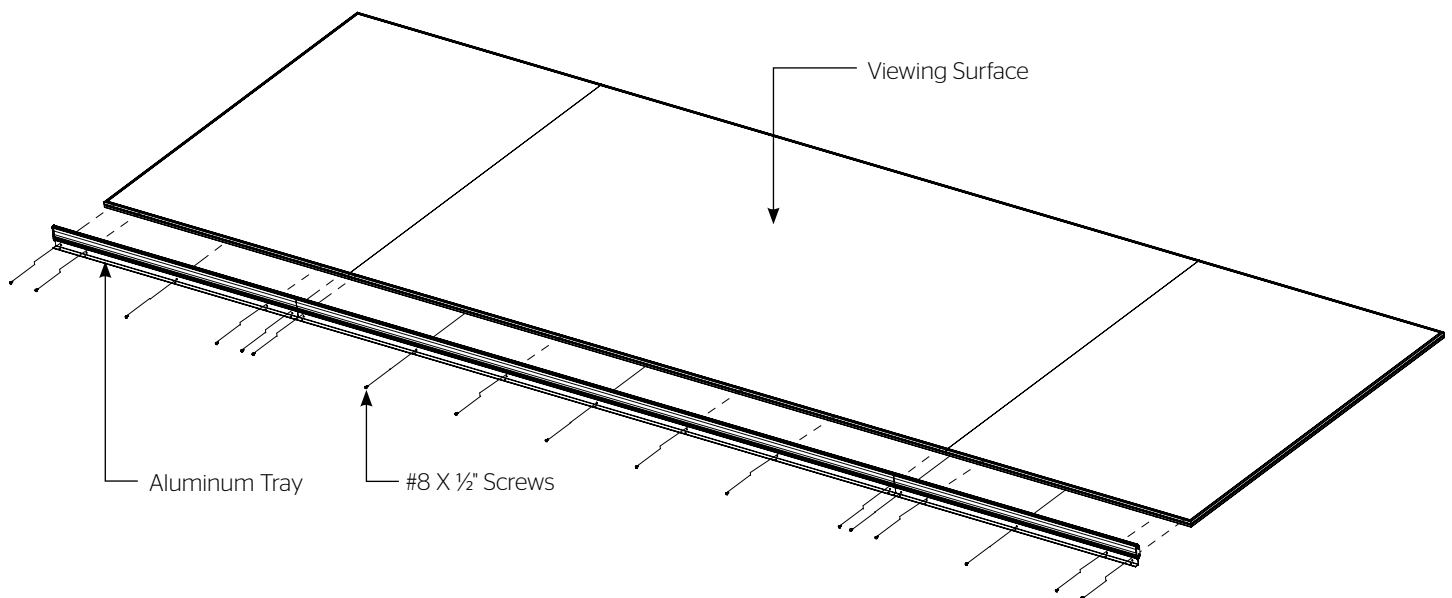

Figure 8
5. Secure the center panel tray section to the center panel with the provided #8 x 1/2" screws (Figure 8).